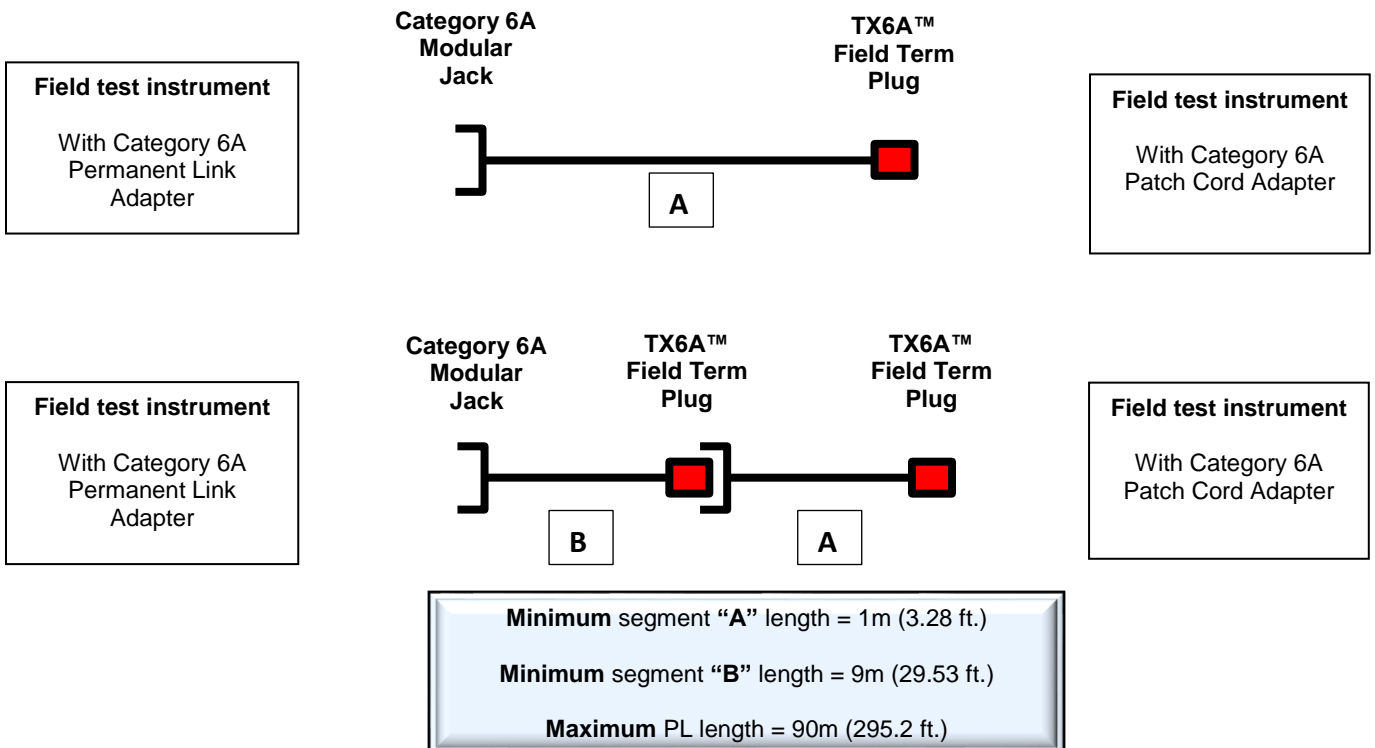

Figure 8. Schematic representations of permanent link testing via the Standards Model.
System designers and users of data communications systems use the Modular Plug Terminated Link (MPTL) field terminable plug Standards Method to verify the performance of the permanent link used in a direct-connect designed infrastructure. The permanent link tested in this model includes up to 90m (295 ft.) of horizontal cable with a maximum of two (2) field terminable plugs. The connection to the equipment at either end of a permanent link is only included in the permanent link definition if measured via the Standards Model. Figure 8 shows schematic representations of the permanent link testing via the Standards Model.